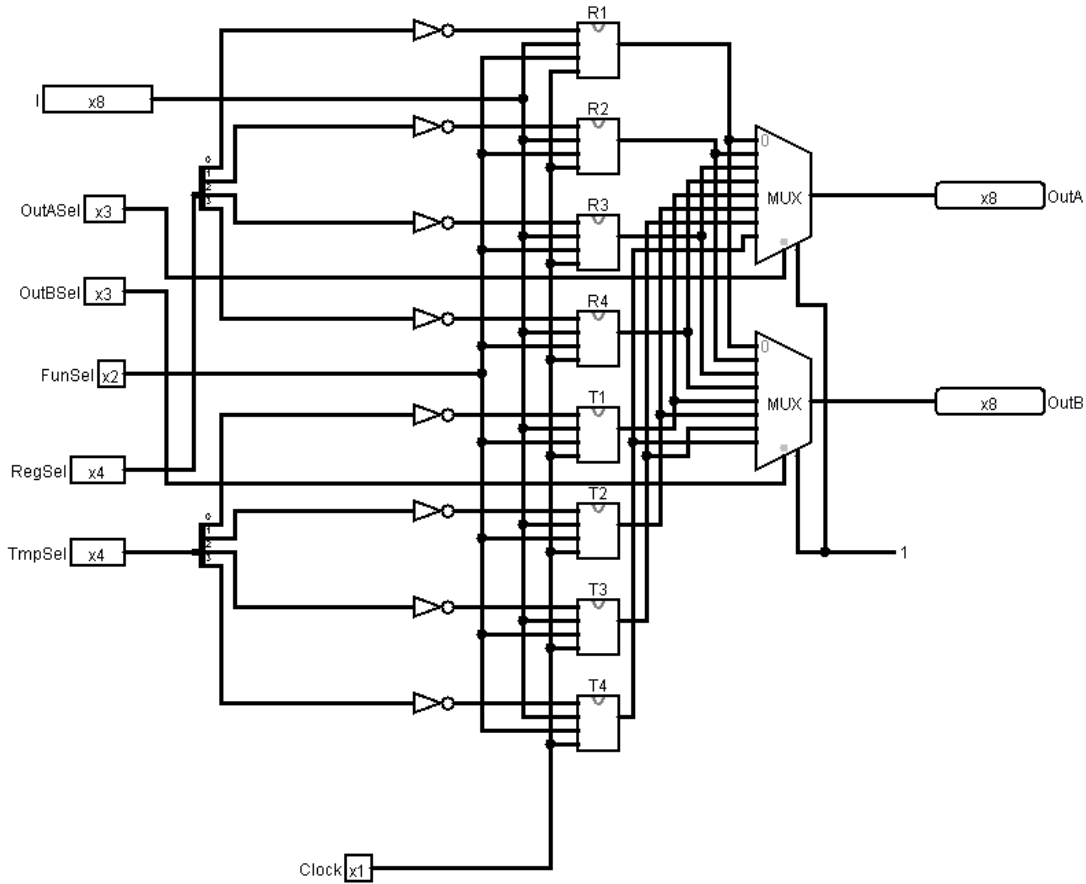

Figure 3: Logisim Circuit of Register File
Register File consists of 4 general purpose registers and 4 temporary registers as shown in Figure 3. It has an 8-bit input (I) to load into active registers, 2-bit FunSel input to select operations such as load, increment, decrement and clear, 4-bit RegSel and TmpSel inputs to select which registers will be enabled and disabled, 3-bit OutASel and OutBSel inputs to choose which register's value will be given as outputs.
As shown in Figure 3, there are following components in our design: